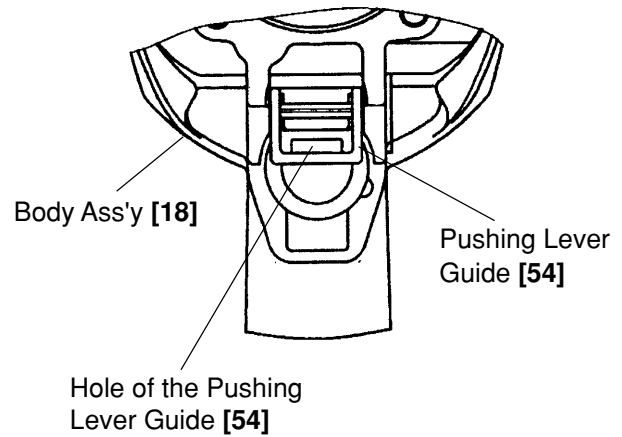

Fig.30
- Mount the Nose [20] to the Body Ass'y [18] inserting Pushing Lever (C) [24] into the hole of the Pushing Lever Guide [54] (Fig. 30).